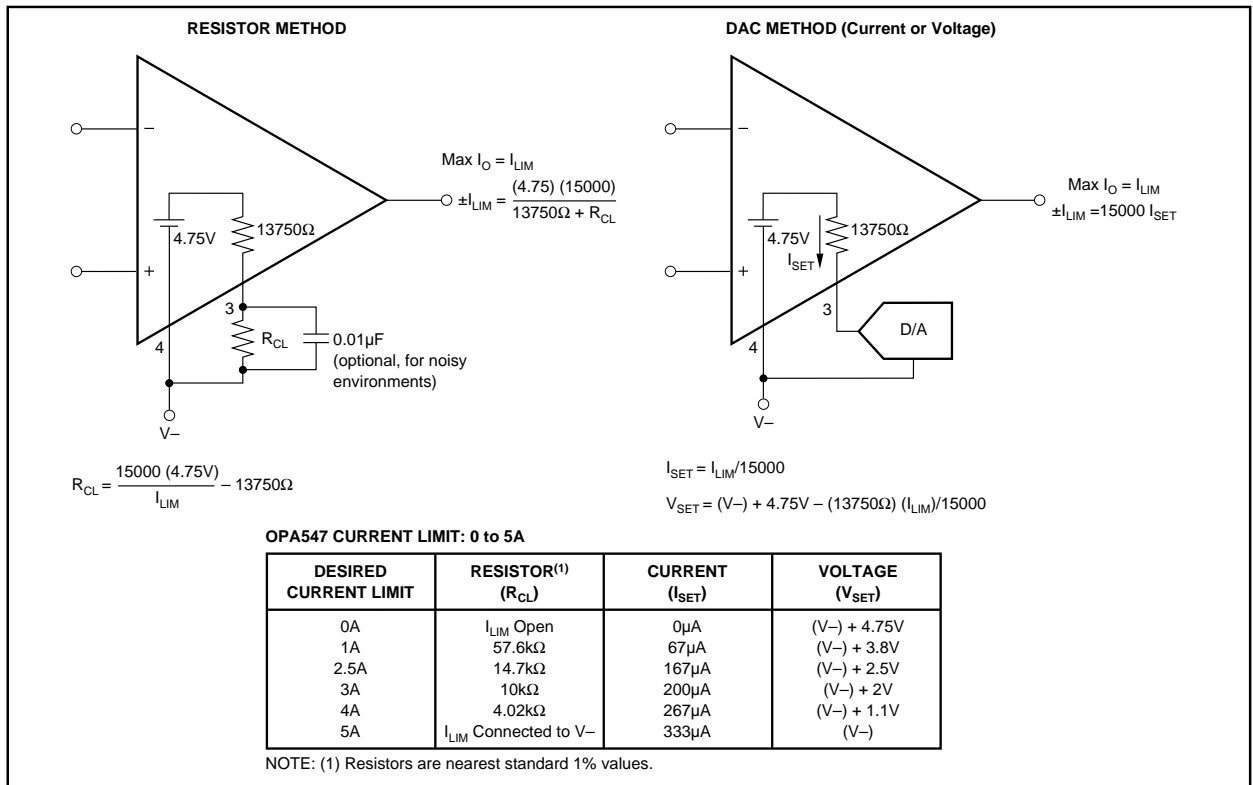

FIGURE 3. Adjustable Current Limit.
Figure 3 shows a simplified schematic of the internal circuitry used to set the current limit. Leaving the I_LIM pin open programs the output current to zero, while connecting I_LIM directly to V- programs the maximum output current limit, typically 5A.
NOTES: (1) Works well for $G < 10$. Input offset causes output current to flow between amplifiers with $G > 10$. Gains (resistor ratios) of the two amplifiers should be carefully matched to ensure equal current sharing. (2) As configured (I_{LIM} connected to V^-) output current limit is set to 10A (peak). Each amplifier is limited to 5A (peak). Other current limit values may be obtained, see Figure 3, "Adjustable Current Limit".